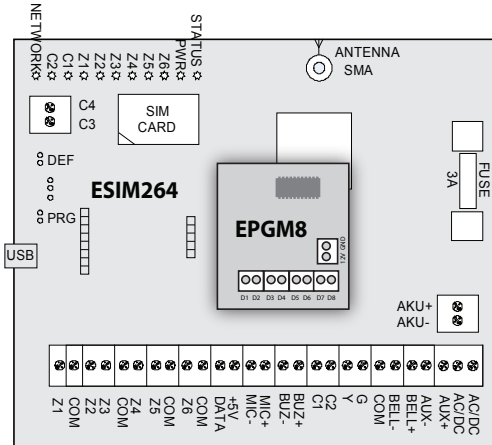

Fig. No. 2
2. Insert EPGM8 pins to appropriate ESIM264 alarm system slots (see Fig. No. 2)